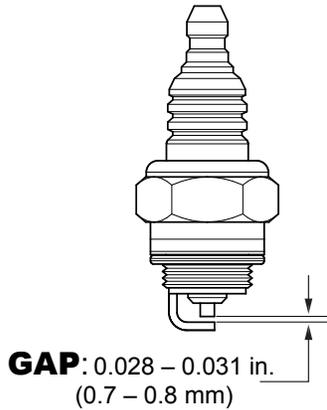

Figure 16. Spark Plug Gap
1. Remove and clean the spark plug (See Figure 16), then adjust the spark gap to 0.028~0.031 inch (0.6~0.7 mm). This unit has electronic ignition, which requires no adjustments.